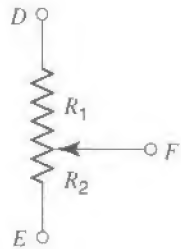

Fig. 6
13. A potentiometer is a voltage divider with a variable division ratio. The symbol for this element is shown in Fig. 6. The total resistance between terminals D and E is constant. The resistance between F and D is R_1 , and that between F and E is R_2 . The arrow represents a slider, which can slide up and down the length of the potentiometer. (Many practical potentiometers have the resistance laid out over part of a circle, and the slider must be rotated rather than moved up and down.) Thus, the values R_1 and R_2 can be varied, while their total resistance, $R_1 + R_2$, stays fixed.¹ In this way, a variable voltage divider can be implemented, as is evident from eq. 4. Use the ohmmeter to study the potentiometer provided to you. Do *not* connect anything else to the potentiometer in this step. Identify the terminals D, E, and F, and determine the minimum and maximum values of R_1 , R_2 , and $R_1 + R_2$.
¹Potentiometers in which R_2 varies in proportion to the slider's displacement from the bottom position in Fig. 6 are called *linear* potentiometers. Another variety is *logarithmic* potentiometers, in which $\log R_2$ is proportional to the above displacement. These are appropriate for use in volume-control circuits because the perception of loudness follows a logarithmic law.